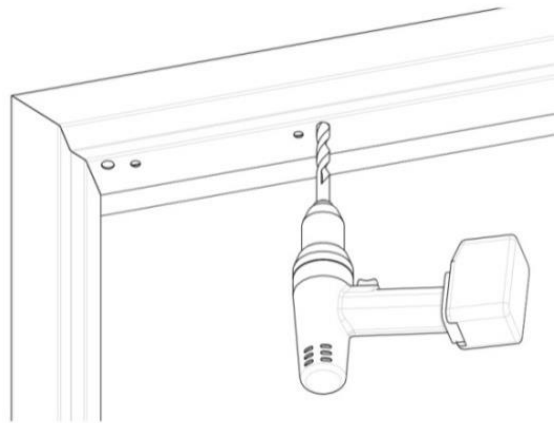

Figure 17. Drilling the Wire Access Holes
2. DRILL wire access holes ($\frac{1}{2}$ " diameter recommended), as needed, on one or both sides of the bracket (see Figure 17, "Drilling the Wire Access Holes").